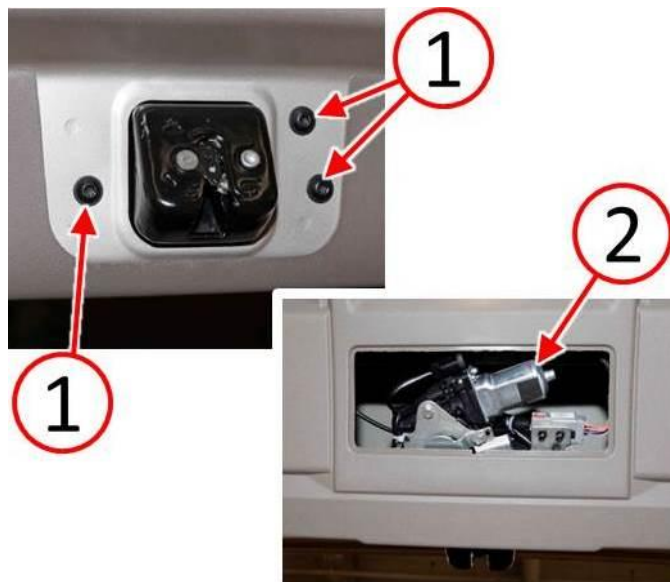

Fig. 3 Remove Liftgate latch
- 7. Remove the three screws (1) that secure the liftgate latch to the liftgate (Fig. 3).
- 8. Remove the latch (2) from the liftgate (Fig. 3).